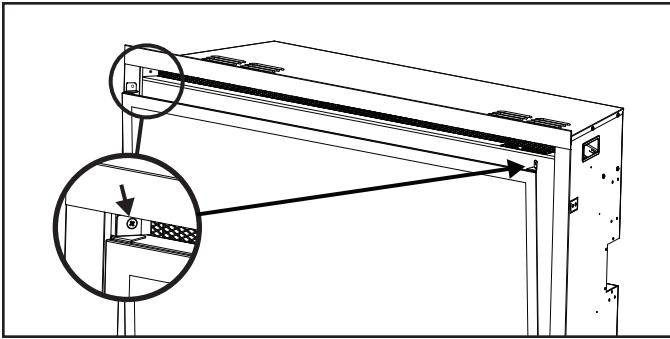

Figure 7.6 Glass Installation
1. Angle the glass to place the bottom edge into the channel behind the outer trim. See Figure 7.6.
2. Place the top edge of the glass against the appliance and secure with two (2) ST4X8 screws.